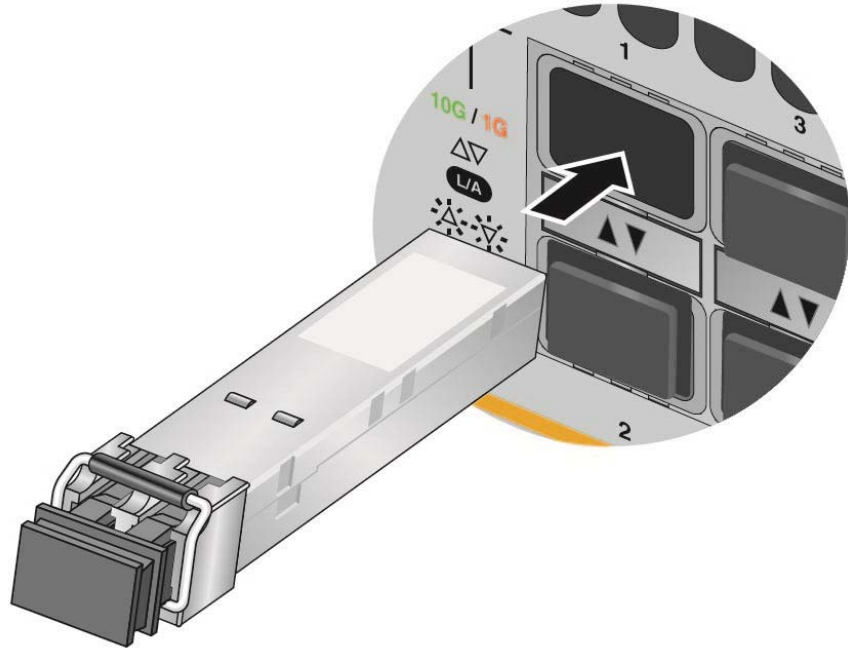

Figure 56. Installing an SFP Transceiver
4. Slide the transceiver into the slot until it clicks into place. Refer to Figure 56 on page 99.